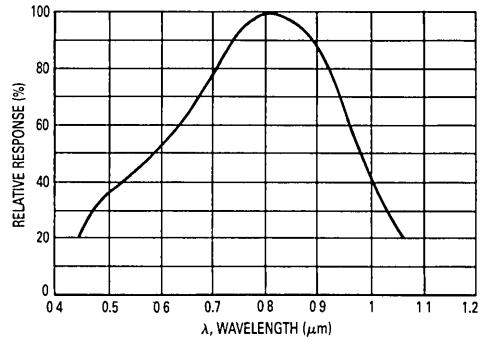

Figure 6. Constant Energy Spectral Response
2. For unsaturated response time measurements, radiation is provided by pulsed GaAs (gallium-arsenide) light-emitting diode ($\lambda \approx 940 \text{ nm}$) with a pulse width equal to or greater than 500 microseconds (see Figure 6) $I_L = 1 \text{ mA peak}$.